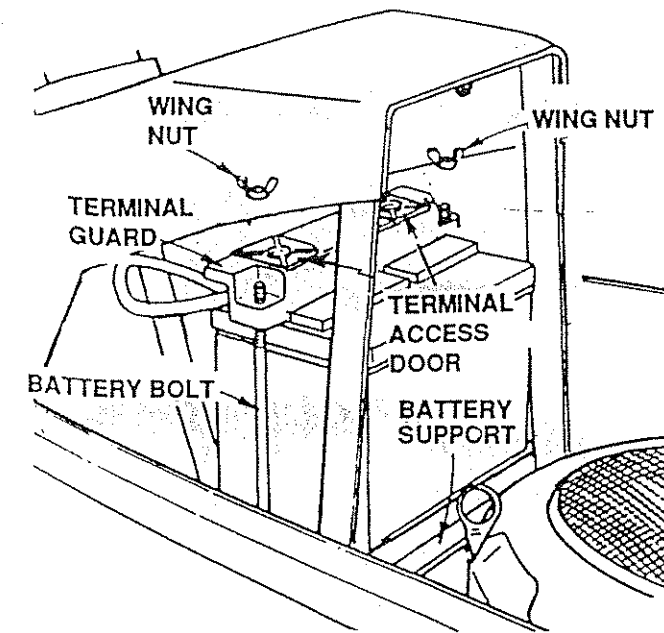

FIGURE 4
- Using the slotted hole on one side of the Battery Support (Fig. 4) insert one Battery Bolt, head of Bolt down. Fasten the Battery Bolt to the Terminal Guard using Wing Nut as shown in Fig. 4.
- Assemble the remaining Battery Bolt to other side of Battery Support and fasten Terminal Guard to it with remaining Wing Nut. Tighten Wing Nuts securely by hand (Fig. 4).
NOTE: USE TERMINAL ACCESS DOORS (FIG. 4) FOR: